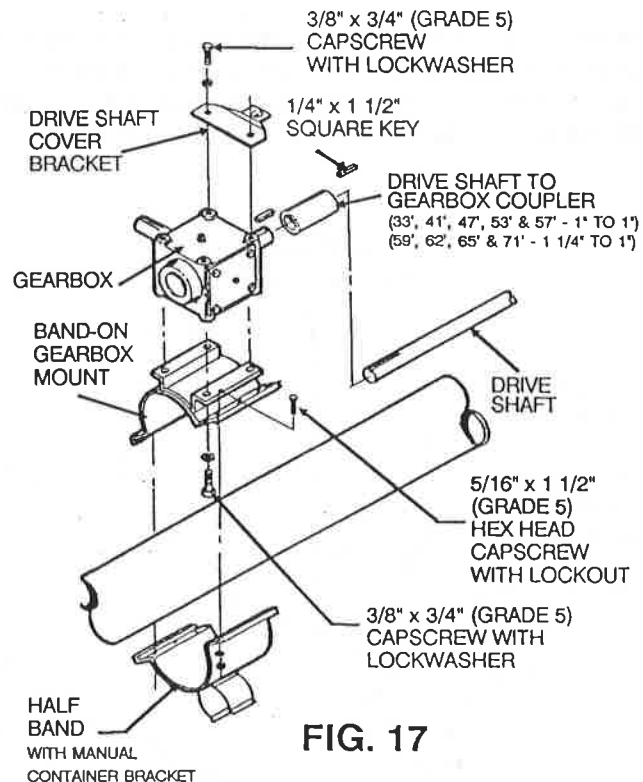

FIG. 17
Step 3. Set gearbox on auger and connect to drive shaft with coupler and two 1/4" x 1 1/2" long square keys. (See Fig. 17.) **NOTE:** On 41' models, the connecting band bolts may need to be loosened so the gearbox can be slid forward when the drive shaft coupler is installed. Tighten connecting band bolts after drive shaft coupler is installed.